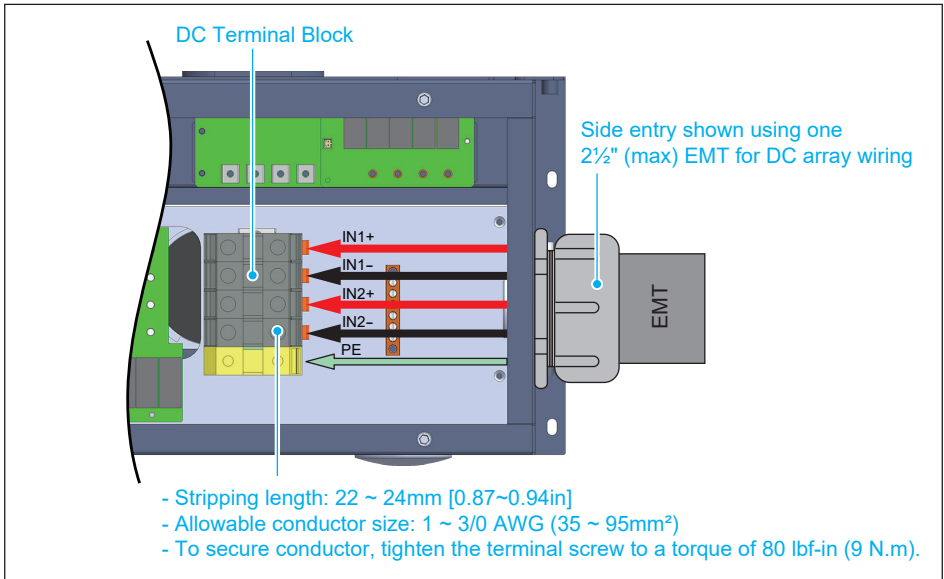

Figure 3-19: Location for DC terminals for M80/60U_121
- For the 121 model, two mounting options for installing the DC connection are available, bottom or side entry; both options have a 2½" chassis access hole (KO). Side entry is shown in **Figure 3-19**.